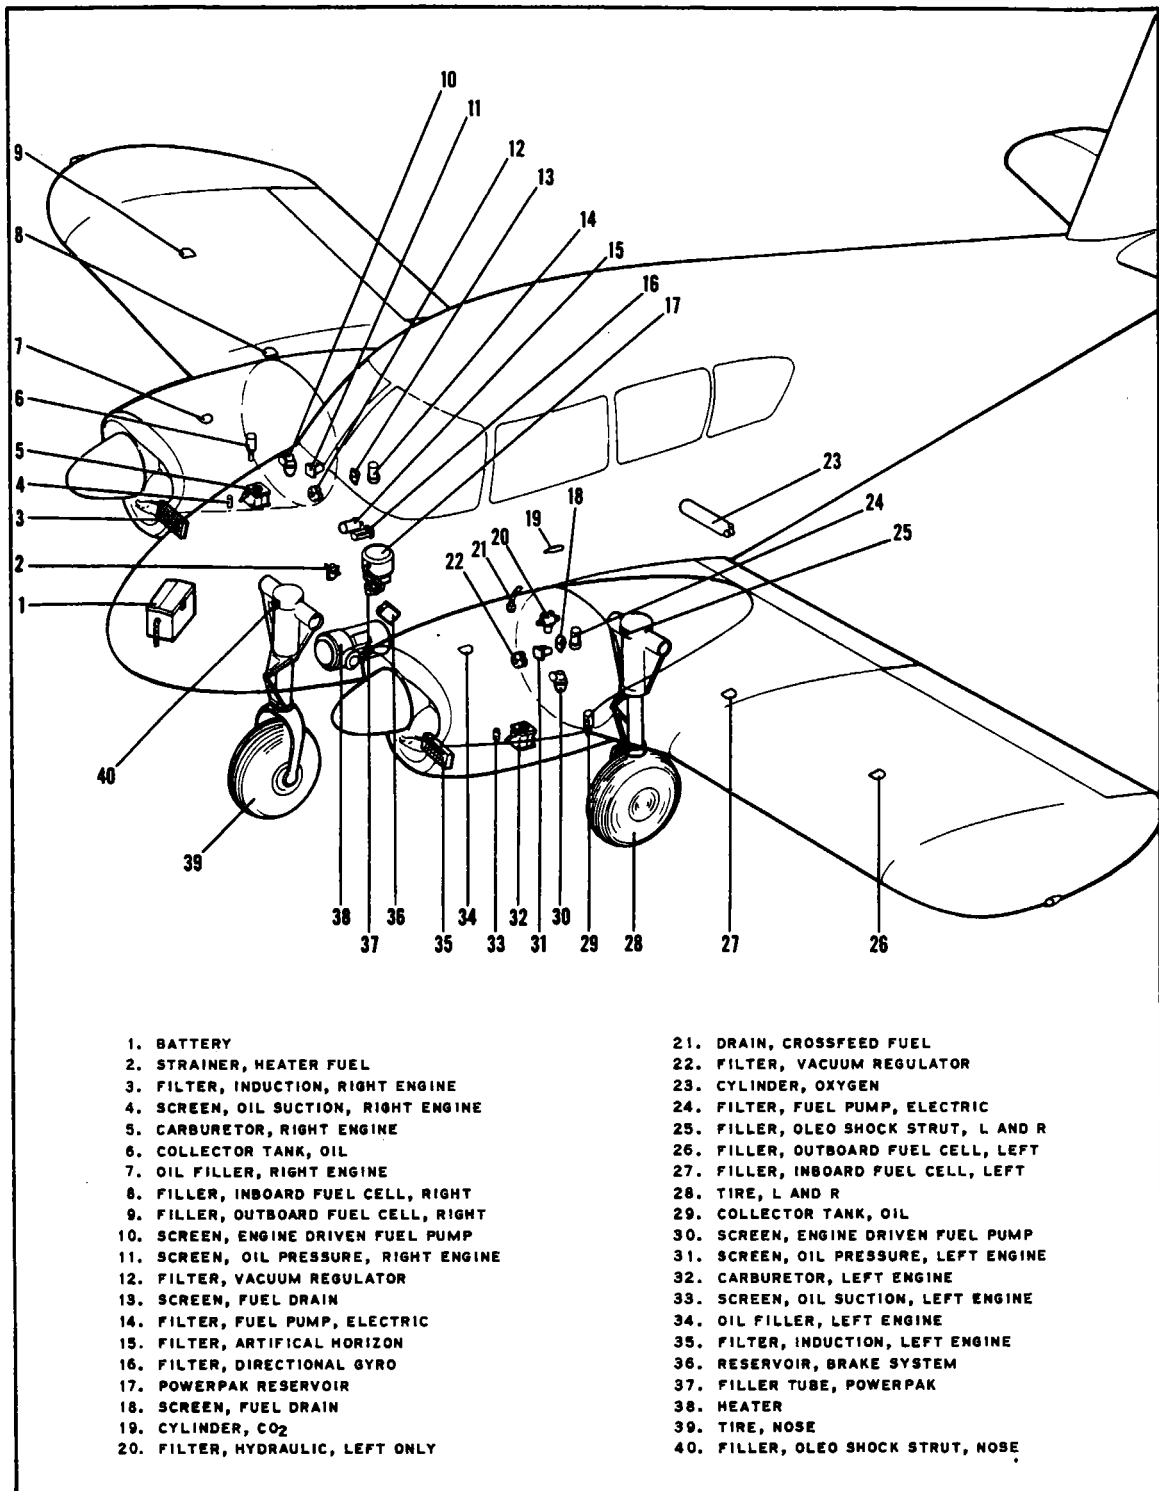

Figure 2-11. Service Points
- f. Add fluid to the system through the filler tube (Refer to Figure 2-11.) until fluid drips from the overflow located in the nose gear wheel well.
- c. Remove the filler tube cap (Refer to Figure 2-11.) and swivel the elbow down.
2-43. FILLING BRAKE CYLINDER RESERVOIR. The brake cylinder reservoir should be filled to the level marked on reservoir, with the fluid specified in Table II-I. The reservoir, located in the left side of the nose section, shown in Figure 2-11, should be checked at every 100-hour inspection and replenished as necessary.
2-56. FILLING FUEL CELLS. Observe all required precautions for handling gasoline. Fill the fuel cells to the bottom of the filler neck with the fuel specified in Table II-I. Refer to Figure 2-11 for the location of the access panels for the fuel tanks.